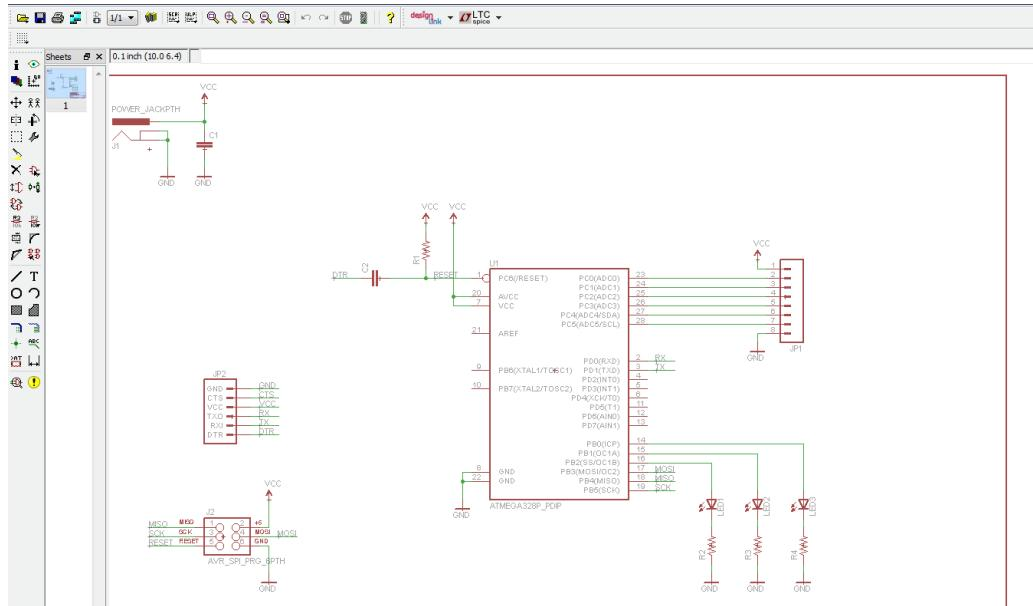

Figure 5. Eagle Schematic Capturing tool
The masks used in fabrication must be designed beforehand based on the circuit we want to implement. **The design process starts with drawing the schematic of the circuit** to be implemented using a schematic capturing tool such as **Eagle schematic editor** (Figure 5). The schematic is **built out of components from component libraries** that come with the schematic capturing tool or created by the designer. The components included in the library are **real components that can be purchased from component distributors** (such as mouser.com, digikey.com, ...). Every library component has few views. For designing a PCB, we will use the symbol view in the schematic capturing step.
11. Add the reset circuit that connects to the NRST pin as depicted in page 24 and in figure 5 page 10.